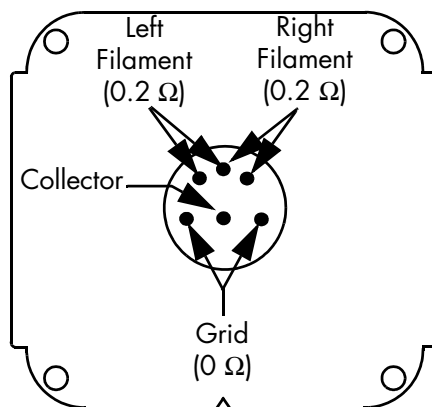

Figure 7-5: 354 Micro-Ion Gauge Pin Identification
6. Using a digital multimeter, measure the resistance of the left filament and the right filament between filament pins as shown in Figure 7-5. The reading should be approximately $0.2\ \Omega$.
7. Measure the resistance of filament pins to any other pin or gauge case as shown in Figure 7-5. The reading should be infinity.
8. Measure the resistance between Grid pins as shown in Figure 7-5. The reading should be approximately $0\ \Omega$.
9. Measure the resistance of Grid pins to any other pin or gauge case as shown in Figure 7-5. The reading should be infinity.
10. Measure the resistance of Collector pin to any other pin or gauge case as shown in Figure 7-5. The reading should be infinity.